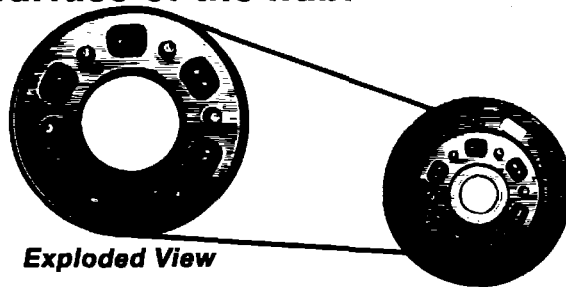

Fig. 7
2. Hub - Apply liquid paint remover or equivalent to the aluminum rim-mating surfaces on each hub. Sand and wire-wheel all black paint on this surface to totally remove the black paint from the area where the aluminum rim makes flat contact with the hub. The paint removal must be completed without damaging the hub surface. After the paint is removed, wash off the area with clean, clear water to wash away any remaining residue (Fig. 7).